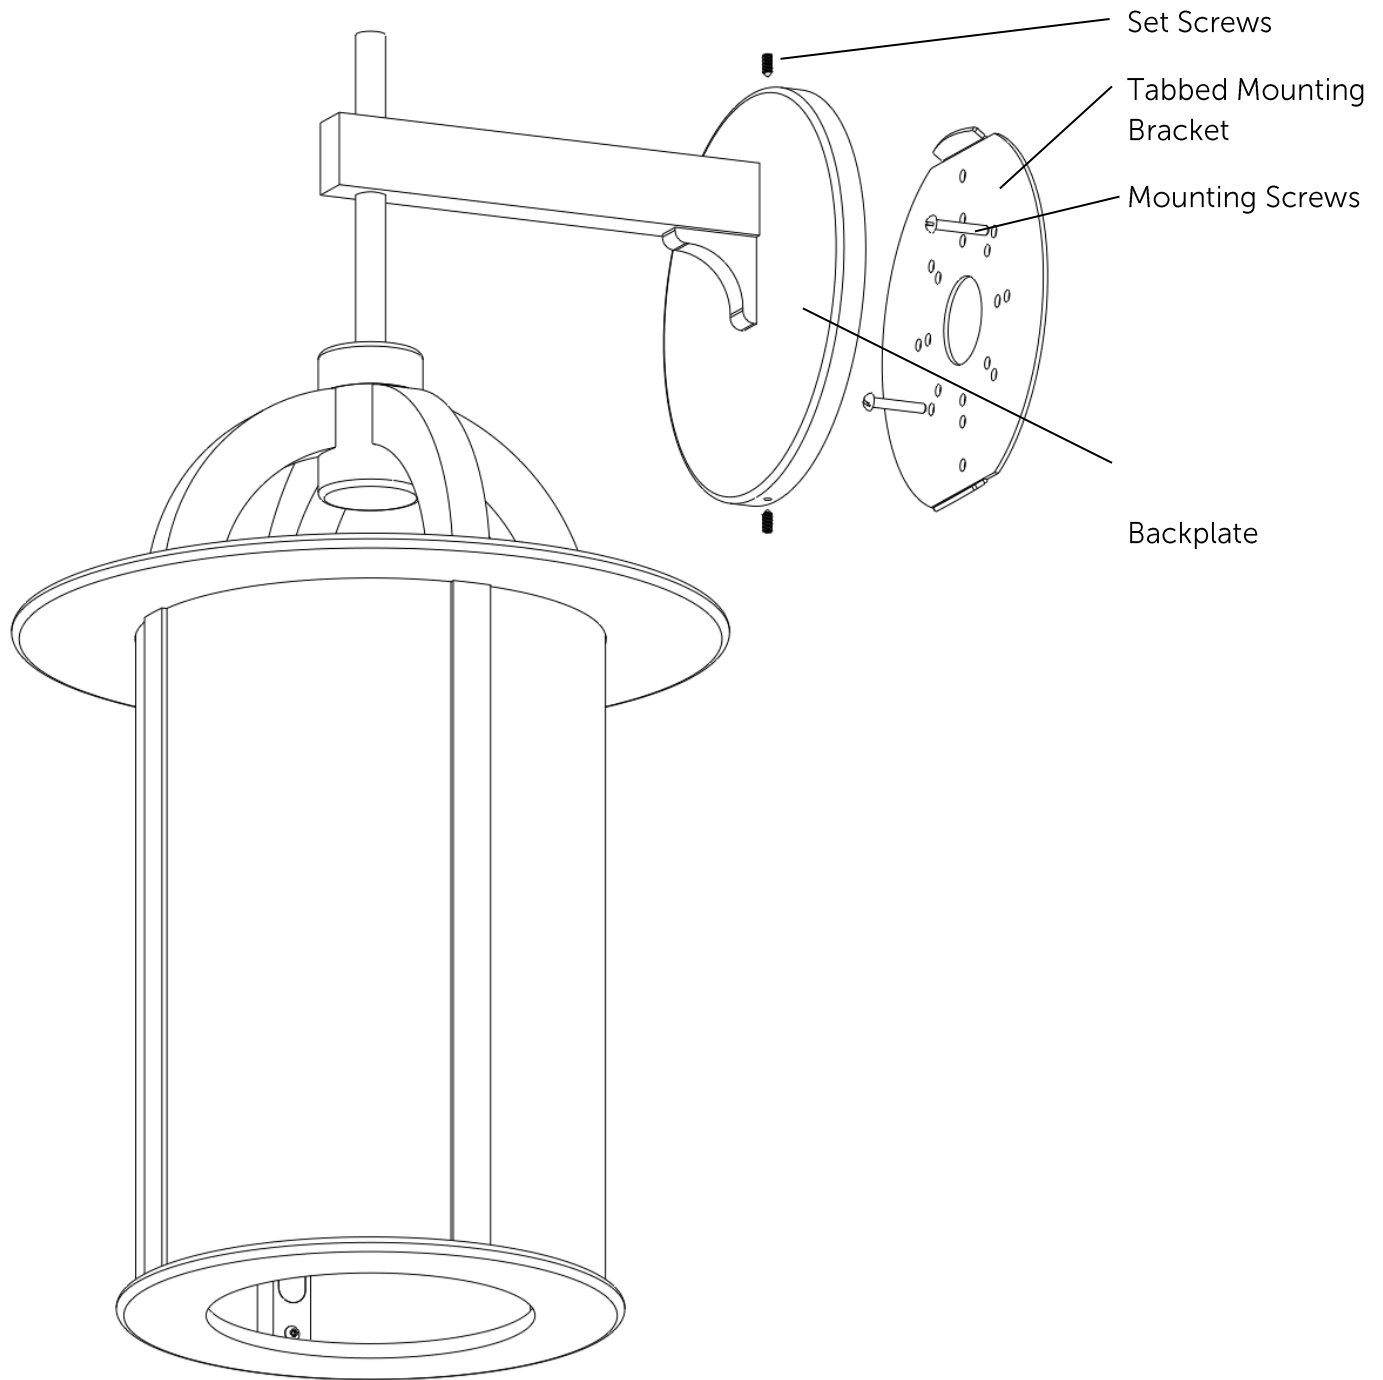

Figure 1
- Secure tabbed mounting bracket to outlet box with the mounting screws provided. (Fig 1)